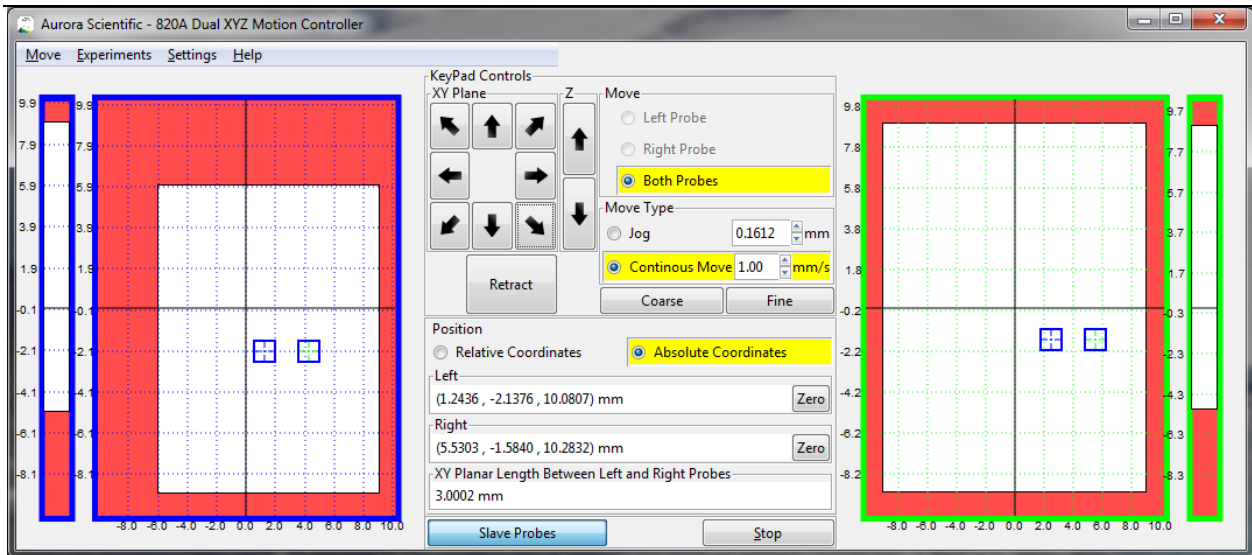

Figure 6 Main window with Slave Probes Enabled
9. At this point you should have a sample attached to the end points of the left and right probes and, if you used Align in X (Y) axis the sample will also be aligned along the desired axis. It is possible that the sample will need to be translated to place it in the center of the microscope's objective or for other experimental reasons. To translate the sample while maintaining the distance between the probes press the **Slave Probes** button on the Main window (see Figure 6) and use either the program's control panel or the manual keypad to move the probes. In slave mode the right and left probes will move in unison in all axes as if they are one rigid object. A visual indication of slave mode is presented by the square box outlining the location of the right and left probes.